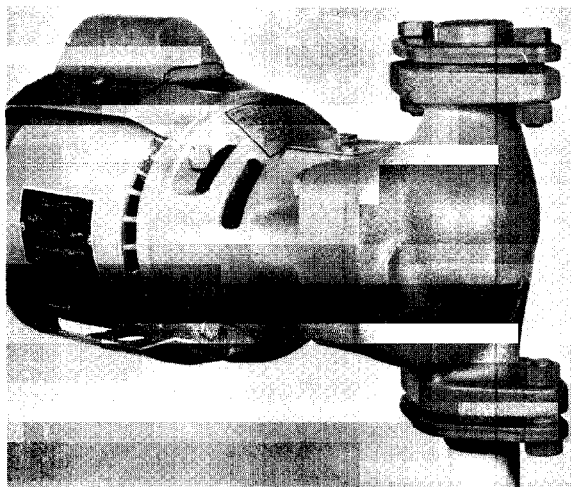

Figure 4-9. Electric motor-driven circulating pump for hot water system.
b. Description. Circulating pumps are almost always of the centrifugal type driven by a directly connected electric motor (fig. 4-9), al-